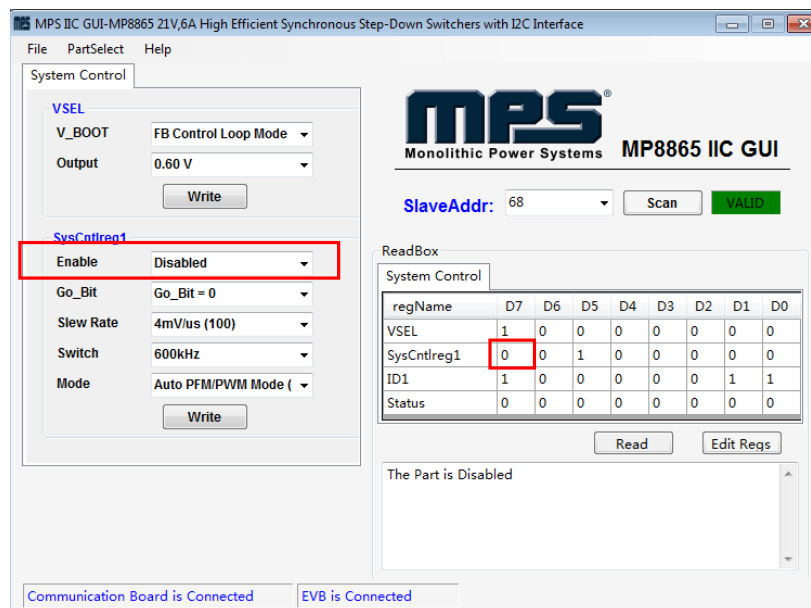

Figure 10: Refer to Datasheet to Translate 0's and 1's
- Click the **"Read"** button to update values. The changed information of the item will appear on the right side (see Figure 10).